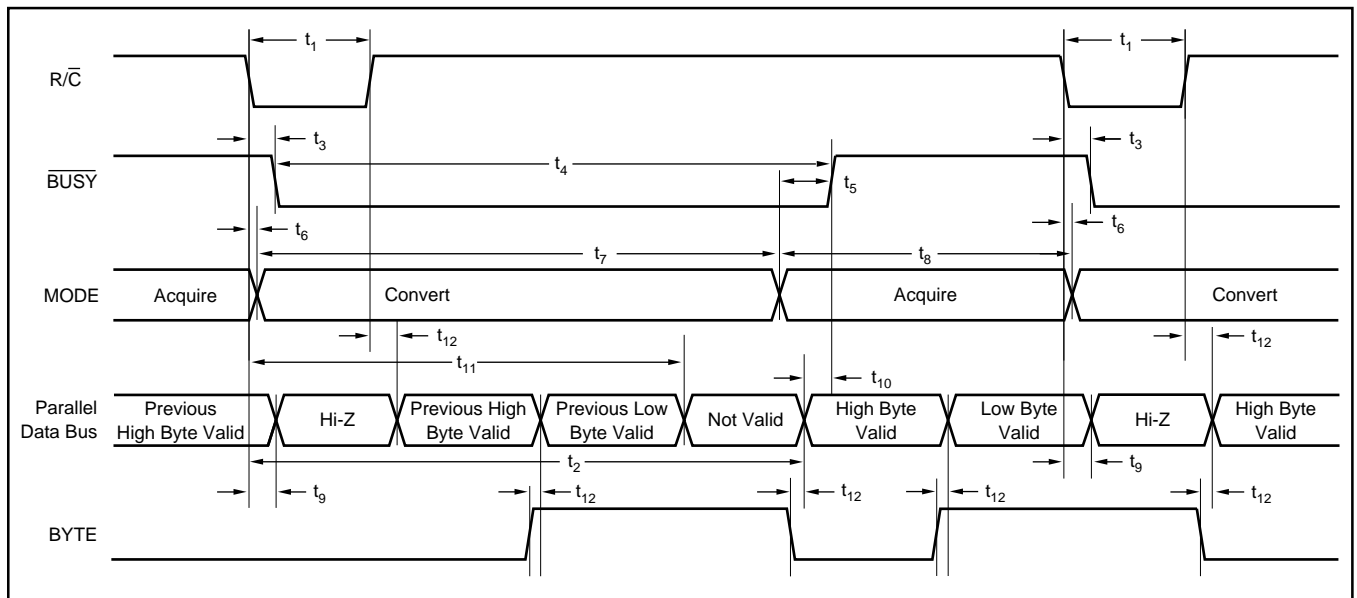

FIGURE 2. Conversion Timing with Parallel Output ( $\overline{\text{CS}}$  and  $\text{DATACLK}$  tied LOW,  $\overline{\text{EXT/INT}}$  tied HIGH).
The ADS7807 will begin tracking the input signal at the end of the conversion. Allowing 25 $\mu$ s between convert commands assures accurate acquisition of a new signal. Refer to Tables II and III for a summary of  $\overline{CS}$ ,  $R/\overline{C}$ , and  $BUSY$  states, and Figures 2 through 6 for timing diagrams.
NOTE: (1) See Figures 2 and 3 for constraints on data valid from conversion 'n - 1'.
After conversion 'n' is completed and the output registers have been updated,  $\overline{\text{BUSY}}$  (pin 24) will go HIGH. Valid data from conversion 'n' will be available on D7-D0 (pins 9-13 and 15-17).  $\overline{\text{BUSY}}$  going high can be used to latch the data. Refer to Table V and Figures 2 and 3 for timing constraints.
After conversion 'n' has been initiated, valid data from conversion 'n - 1' can be read and will be valid up to  $12\mu\text{s}$  after the start of conversion 'n'. Do not attempt to read data beyond  $12\mu\text{s}$  after the start of conversion 'n' until  $\overline{\text{BUSY}}$  (pin 24) goes HIGH; this may result in reading invalid data. Refer to Table V and Figures 2 and 3 for timing constraints.